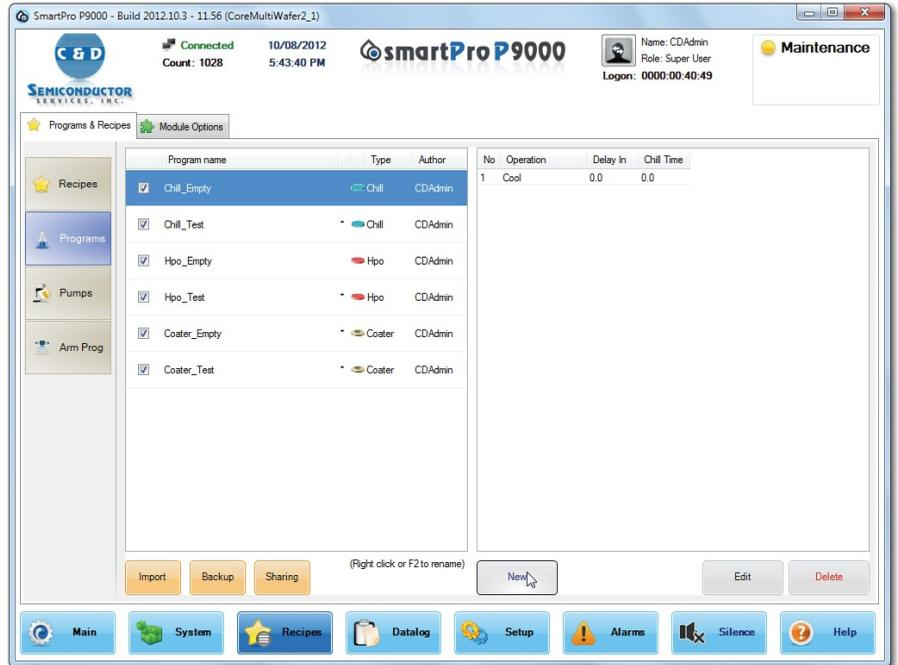

FIGURE 3-16: Creating a new module program
- From the side menu, click the Programs tab. The Recipes page refreshes. See Figure 3-16.